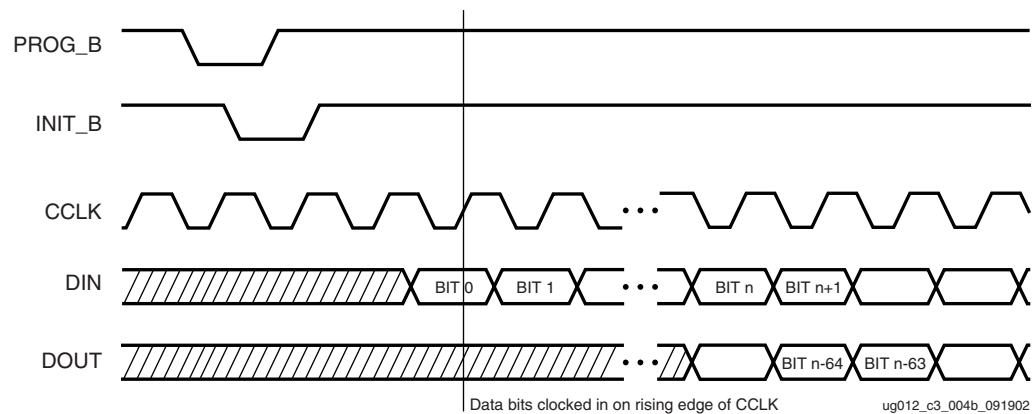

Figure 4-14: Serial Configuration Clocking Sequence
1. For Slave configurations, a free running CCLK can be used, as shown in Figure 4-14.